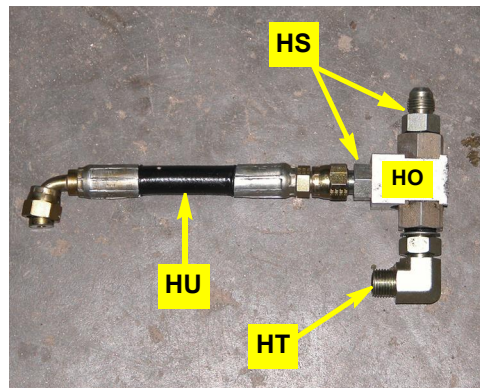

Figure 5c: Prepared load sense shuttle valve
- c. Assemble load sense shuttle valve **HO** as follows (Figure 5c):